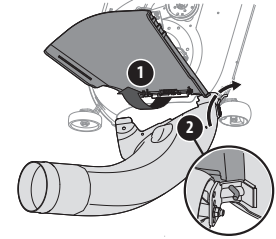

Figure 20
2. With the tractor's discharge chute raised up and held open (1), install the boot by placing the boot mounting rod into the hole provided in either your deck wheel bracket or boot mounting tab (2), as shown in Figure 20.